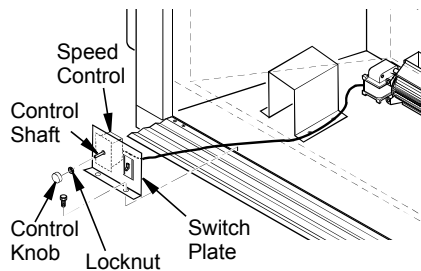

Figure 27 - Attaching Speed Control to Firebox
7. Place speed control against the back of this plate and push the plastic control shaft through opening (see Figure 27).
8. While supporting speed control, secure control shaft with lock nut by pushing and turning lock nut with pliers clockwise until tight against the plate. Place control knob (provided) onto shaft (see Figure 27).